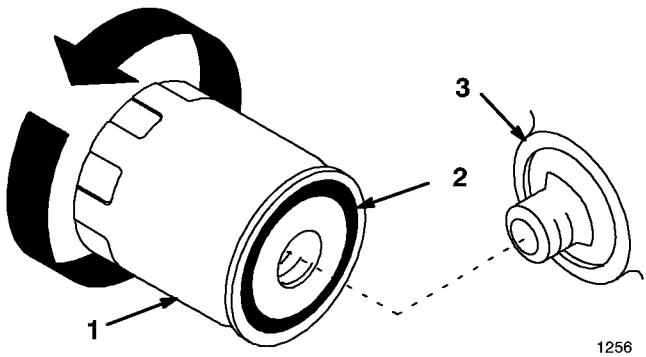

Figure 34A
6. Change oil filter. (Fig. 34A).
- Remove the old filter and wipe the filter adapter (Fig. 34A) gasket surface.
- Apply a thin coat of new oil to the rubber gasket on the replacement filter (Fig. 34A).
- Install the replacement oil filter to the filter adapter. Turn the oil filter clockwise until the rubber gasket contacts the filter adapter, then tighten the filter an additional 1/2 turn (Fig. 34A).